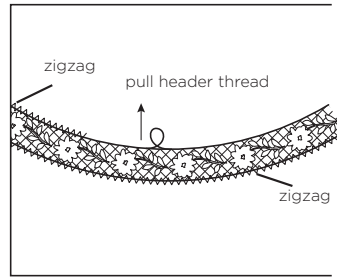

Figure 2
2. If the lace is being attached in a curve, shape the lace around the curve referring to the lace shaping directions. Pull the upper most thread in the lace heading along the wavy side if necessary to make the lace lie flat and zigzag along the curved edges (fig. 2).